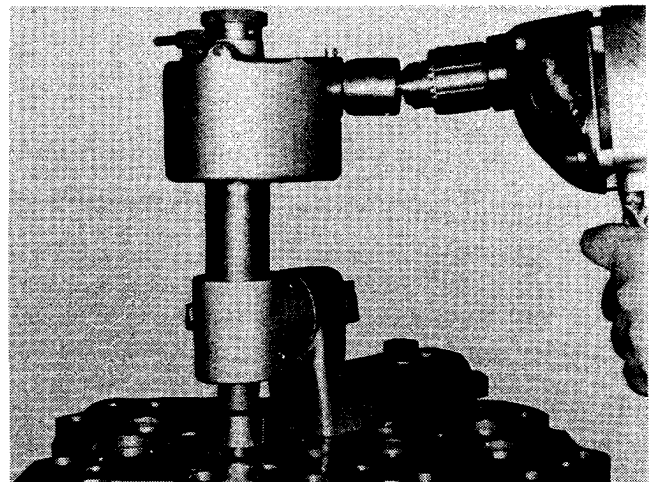

Fig. 2-14, (N10288). Counterboring for valve seat with ST-257
2. Enlarge counterbore to next oversize. Inserts are available in standard oversizes as listed in Table 2-1 (8).
3. Use ST-663 Valve Guide Arbor and ST-257 Valve Seat Insert Tool Driver (Fig. 2-14) to hold and drive ST-662 Valve Seat Insert Cutter when cutting valve seat insert counterbore.